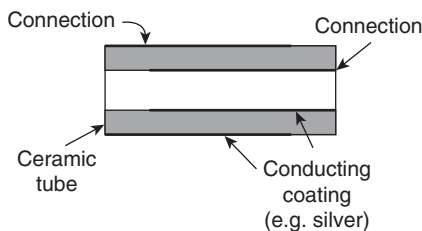
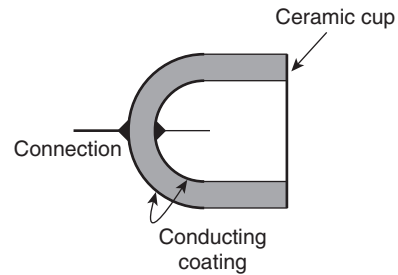
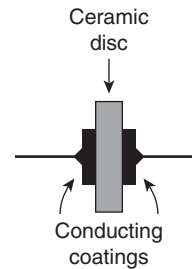

Figure 6.17
Figure 6.18
Figure 6.19
4. **Ceramic capacitors.** These are made in various forms, each type of construction depending on the value of capacitance required. For high values, a tube of ceramic material is used as shown in the cross-section of Fig. 6.17. For smaller values the cup construction is used as shown in Fig. 6.18, and for still smaller values the disc construction shown in Fig. 6.19 is used. Certain ceramic materials have a very high permittivity and this enables capacitors of high capacitance to be made which are of small physical size with a high working voltage rating. Ceramic capacitors are available in the range 1 pF to 0.1 μ F and may be used in high frequency electronic circuits subject to a wide range of temperatures.